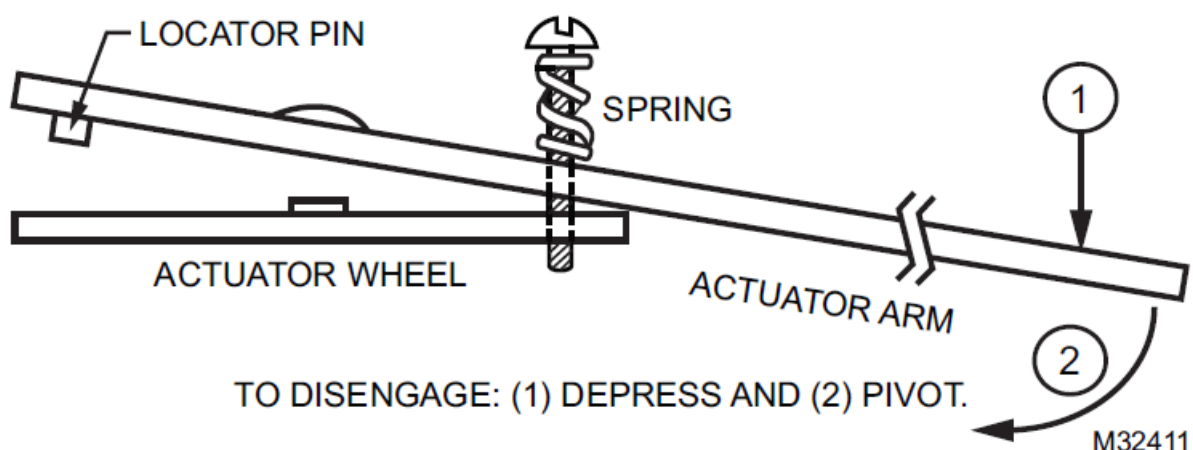

Fig. 8. Disengaging actuator arm from draft damper.
Screw to be tightened only enough to seat locator pin arm into hole in wheel so arm can be disengaged from wheel by depressing arm. See Fig. 8.
4. The actuator arm can be disengaged from the wheel to manually close the draft damper when the damper operator is energized, or to prevent operation of the draft damper as the damper operator responds to the controller. In this position, the actuator arm can be pivoted so as to be clear of the draft damper during the operator's rotation. See Fig. 8.